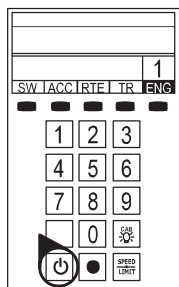

Figure 3. LEGACY start-up
5. **Press the Start Up key on your LEGACY CAB-2 Remote, shown in Figure 3. Then, throttle up and move 'em out!** Your engine sound will start up, and the locomotive-specific touch screen buttons will populate the remote. For more information on operating your locomotive with the LEGACY system, please refer to the LEGACY section of this manual. Additional information is also found in the LEGACY System Manual, available online at [www.lionel.com](http://www.lionel.com).